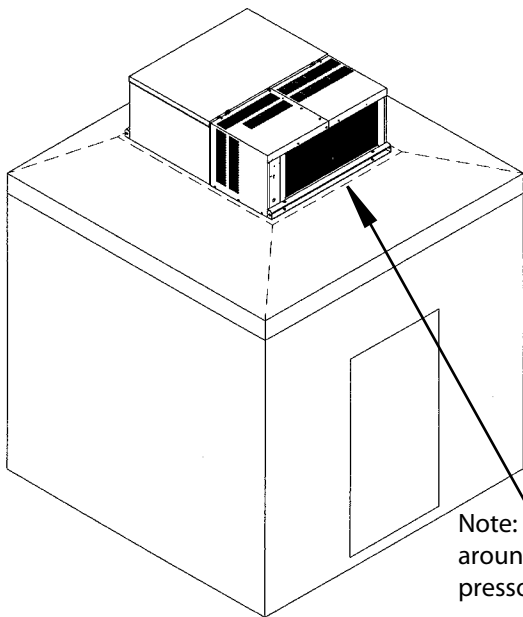

Figure 3. PTT unit placed on roof of walk-in cooler. (see rigging instructions).
5. Place PRO3 system onto curbing and center over opening in roof box. (See Figure 3, page 7)